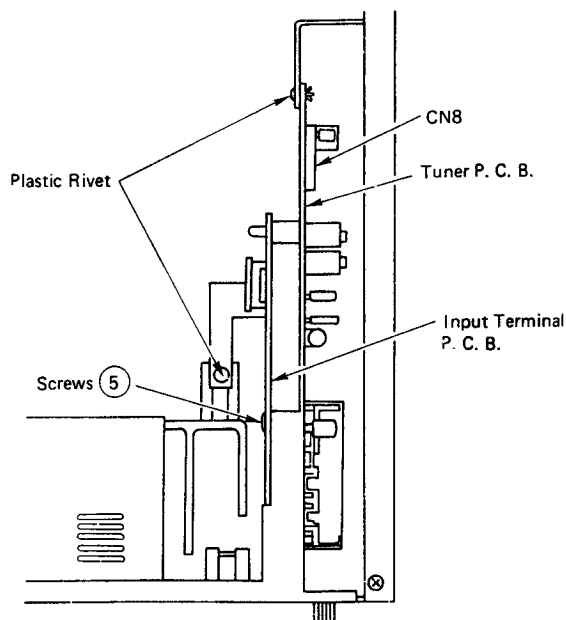

Fig. 4
- 3) Remove the two plastic rivets and screw (5) shown in Fig. 4.